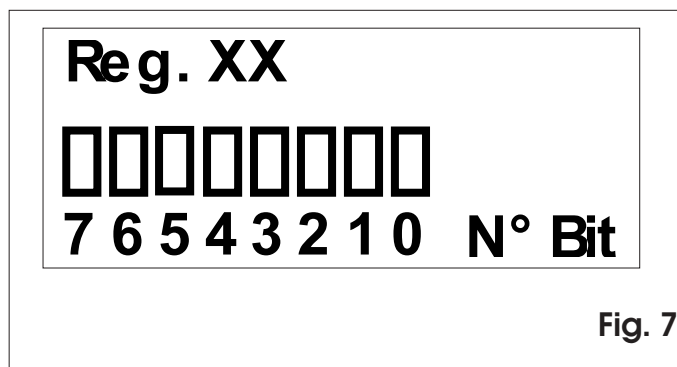

Fig. 7
- Type in the decimal value or, if modifying a single bit, press  to select the modification of the binary value and  or  to select the bit, as shown in fig. 7, and modify the value. Character X indicates the bits whose value depends on other settings and which must not be modified.